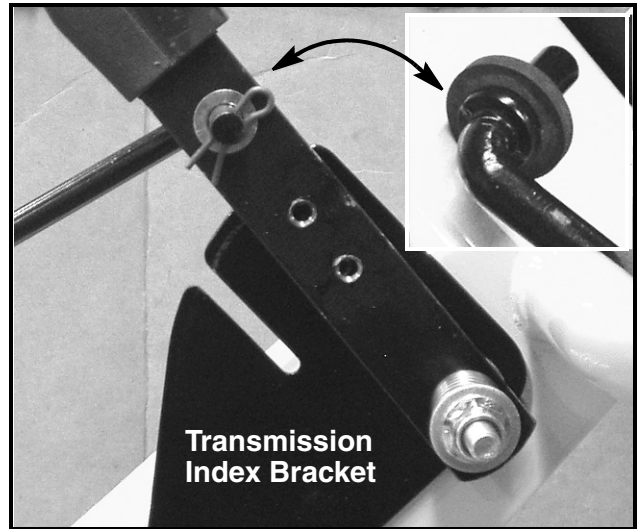

FIGURE 9
19. Ensure the tiller is still in the "Tines Reverse" mode detent position and the rubber washer is on the shift rod (see Figure 9 inset). Rotate the shift lever up and install the shift rod onto the shift lever using the hairpin clip and small flat washer removed in Step 7.